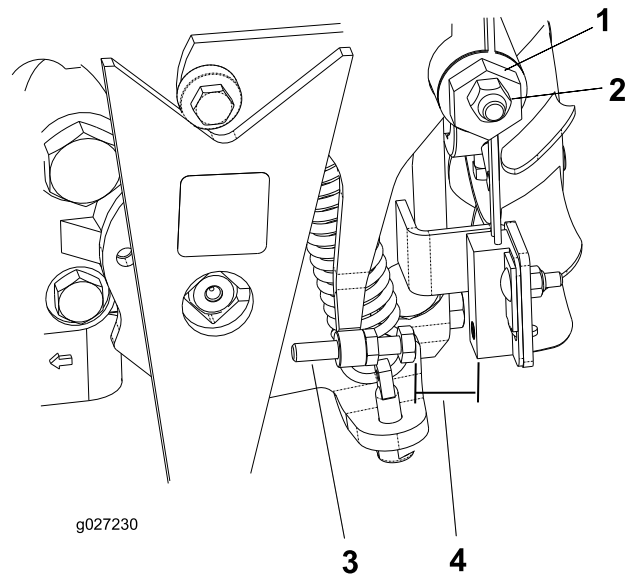

Figure 34
4. Loosen the locknut on the traction-adjustment cam (Figure 34).
5. Start the engine and rotate the cam hex (Figure 34) in both directions to determine the midpoint of the neutral span.
3. Adjust the screw until the air gap is 0.8 to 2.3 mm (0.030 to 0.090 inch); refer to Figure 34.